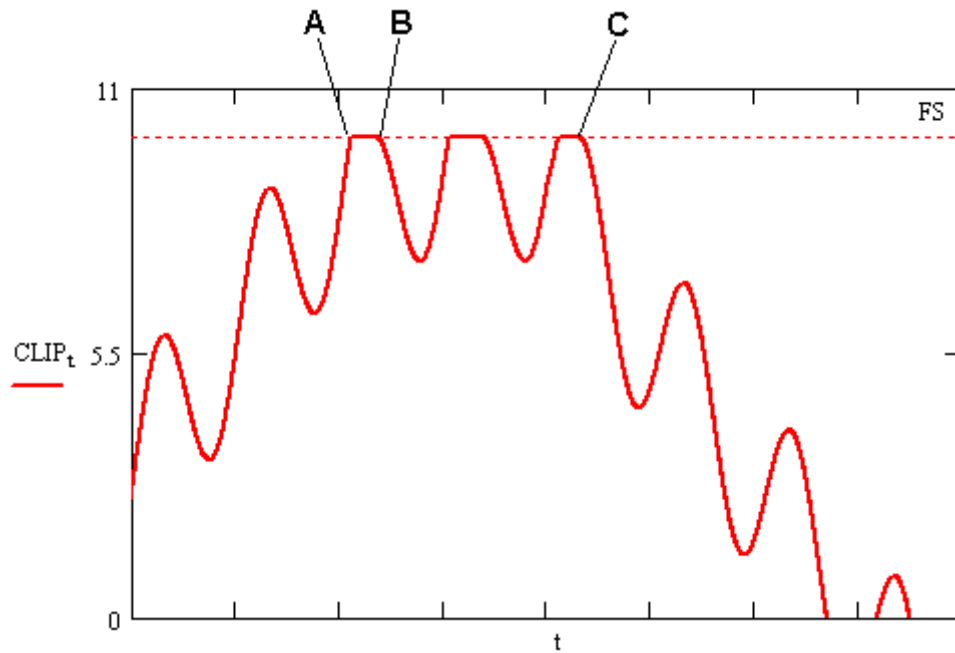

Figure 5.16: AC signal distortion with strong superimposition
Due to the signal dynamics however, with this operating mode in overrun status, it is not possible to avoid affecting the signal shape of the AC content. This is shown in FIGURE 5.16 between points A and B. If the vibration signal (AC) is strongly superimposed by a shift (DC), once the measurement range limit is reached, the AC content does not reappear until the motion reversal (point B). Or in other words: During the measurement range overrun between points A and C (refer to FIGURE 5.16), the presentation of the vibration process is distorted.
However, as soon as the signal is back within the measurement range limits after motion reversal of the superimposed triangular shift (refer to FIGURE 5.16, point C), the AC signal is once again shown without any distortions.